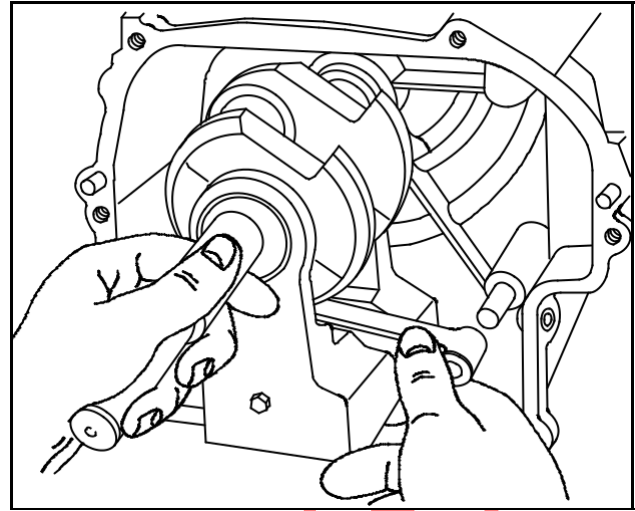

Fig. 12
10. Align link with crankcase link pin and push assembly into place, Fig. 12.